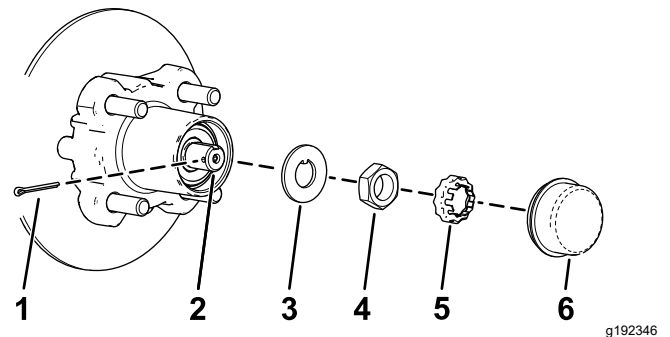
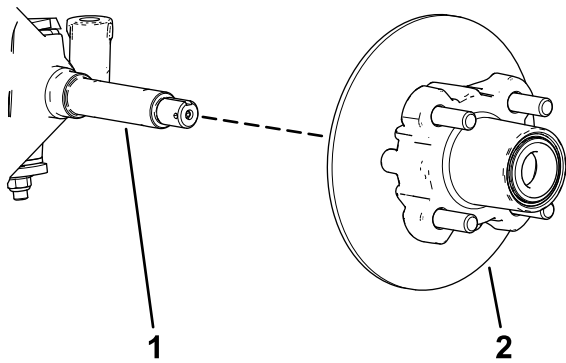

Figure 33
Figure 34
4. Remove the dust cap from the hub (Figure 33).
5. Remove the cotter pin and nut retainer from the spindle and spindle nut (Figure 33).
6. Remove the spindle nut from the spindle, and separate the hub and rotor assembly from the spindle (Figure 33 and Figure 34).